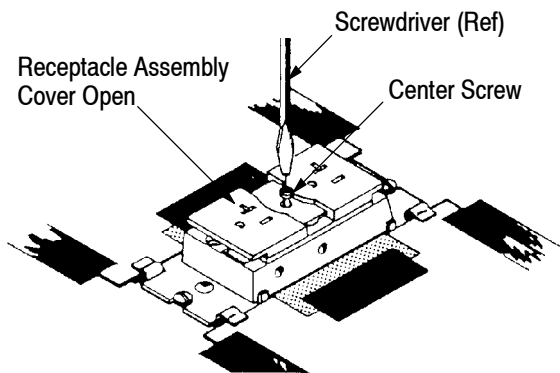

Figure 6
8. Open the receptacle assembly cover to expose the center screw. Place the screwdriver on the screw and manually tap it. See Figure 6. Tighten the center screw, close the cover, then tighten the outer screws. Tighten screws to a torque of 2.26 Nm [20 in.-lbs].